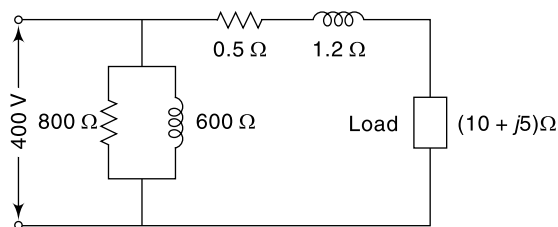

Fig. 8.15 Circuit diagram for Example 8.25
8.25 The diagram in Fig. 8.15 shows the equivalent circuit for a single-phase transformer. The ratio of secondary to primary turns is 15. Find the (i) secondary terminal voltage, (ii) the primary current and (iii) efficiency.